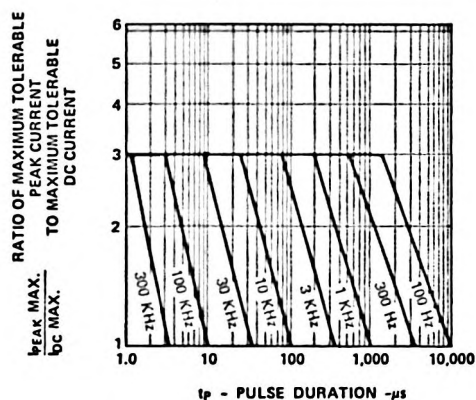

Figure 3. Maximum Tolerable Peak Current vs. Pulse Duration. (I_{DC} MAX as per MAX Ratings.)
- See Figure 3 to establish pulsed operating conditions.